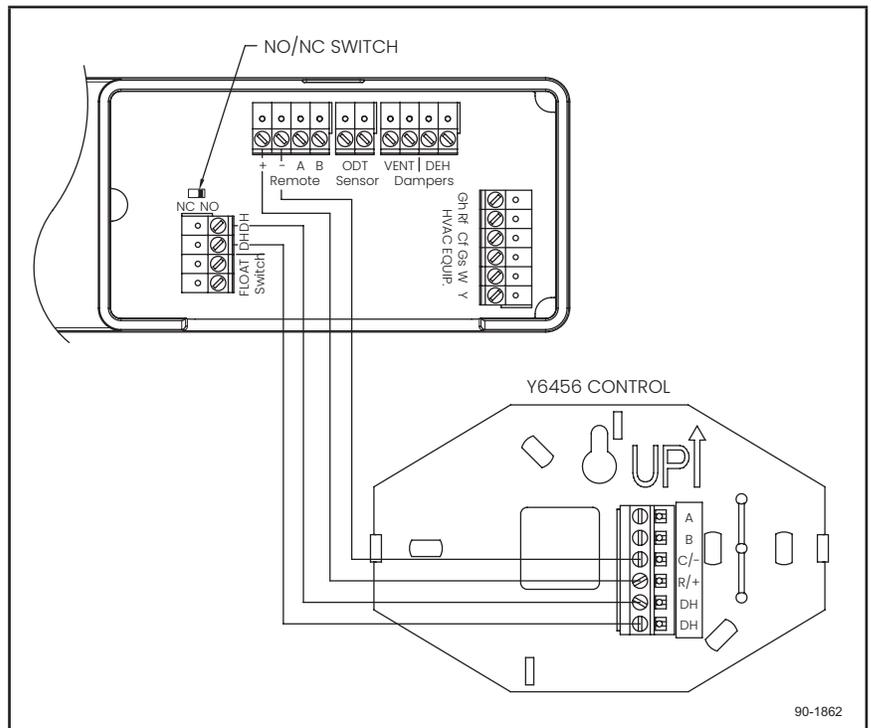

Figure 22. Y6456 External Control Wiring
The Y6456 uses a normally open (NO), dry contact (i.e. not a triac or other semiconductor) relay to complete the circuit between the DH terminals of the dehumidifier control. If using other controls such as a thermostat with dehumidification outputs, ensure the output is a dry contact type and set the NO/NC switch on the dehumidifier control (see **Figure 22**) to correspond with the control being used.